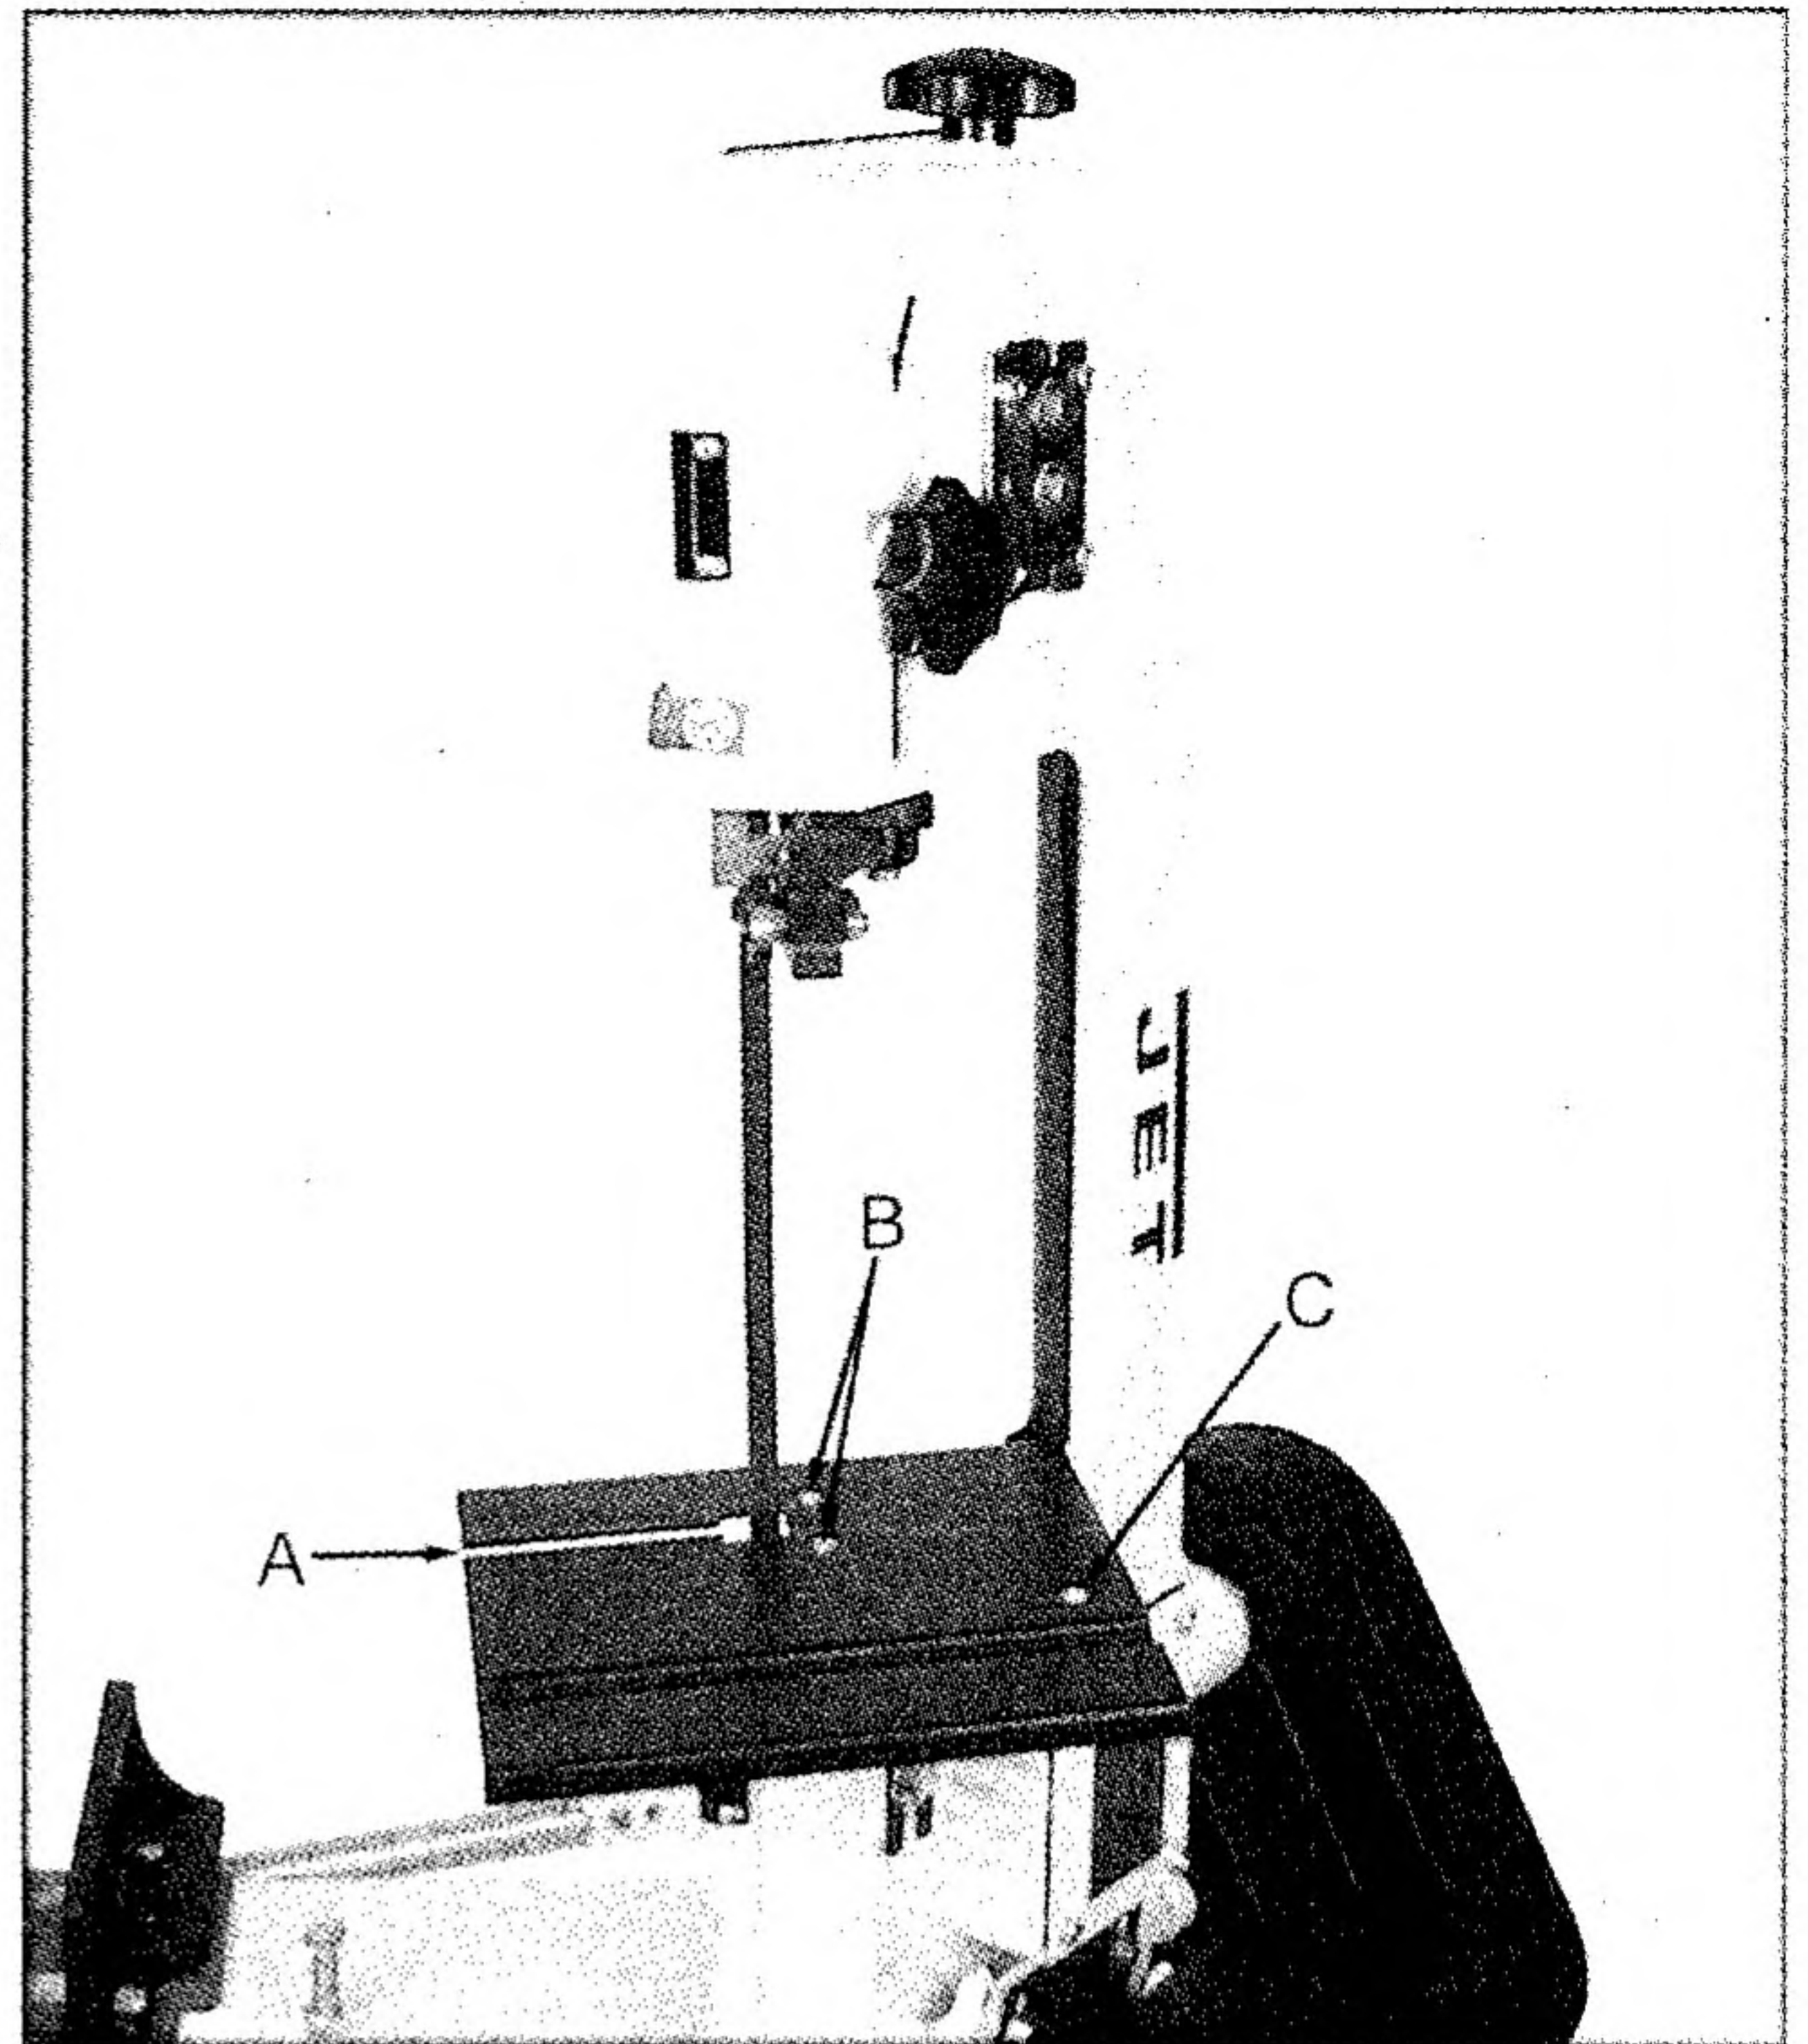

Fig. 8
5. Guide blade through slot in table (A, Fig. 8) and fasten table with two screws (B, Fig. 8).
6. Fasten support bracket to underside of table using screw (C, Fig. 8) and hex nut.